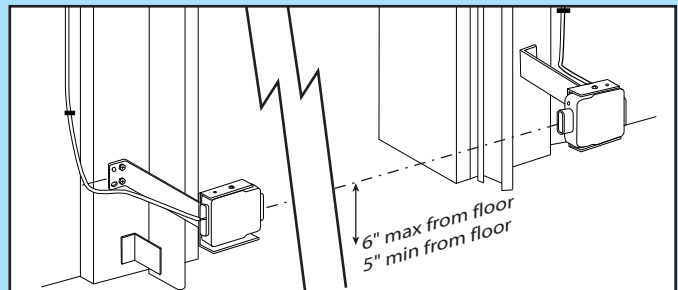

FIG. 5-4 Check Safe-T-Beam® alignment.
WITH POWER SUPPLIED:**Check Safe-T-Beam® alignment (Fig. 5-4).**
- Insure that tops of lenses are between 5" - 6" above the floor (Fig. 5-4). The brackets are flexible, and can be adjusted slightly if needed.